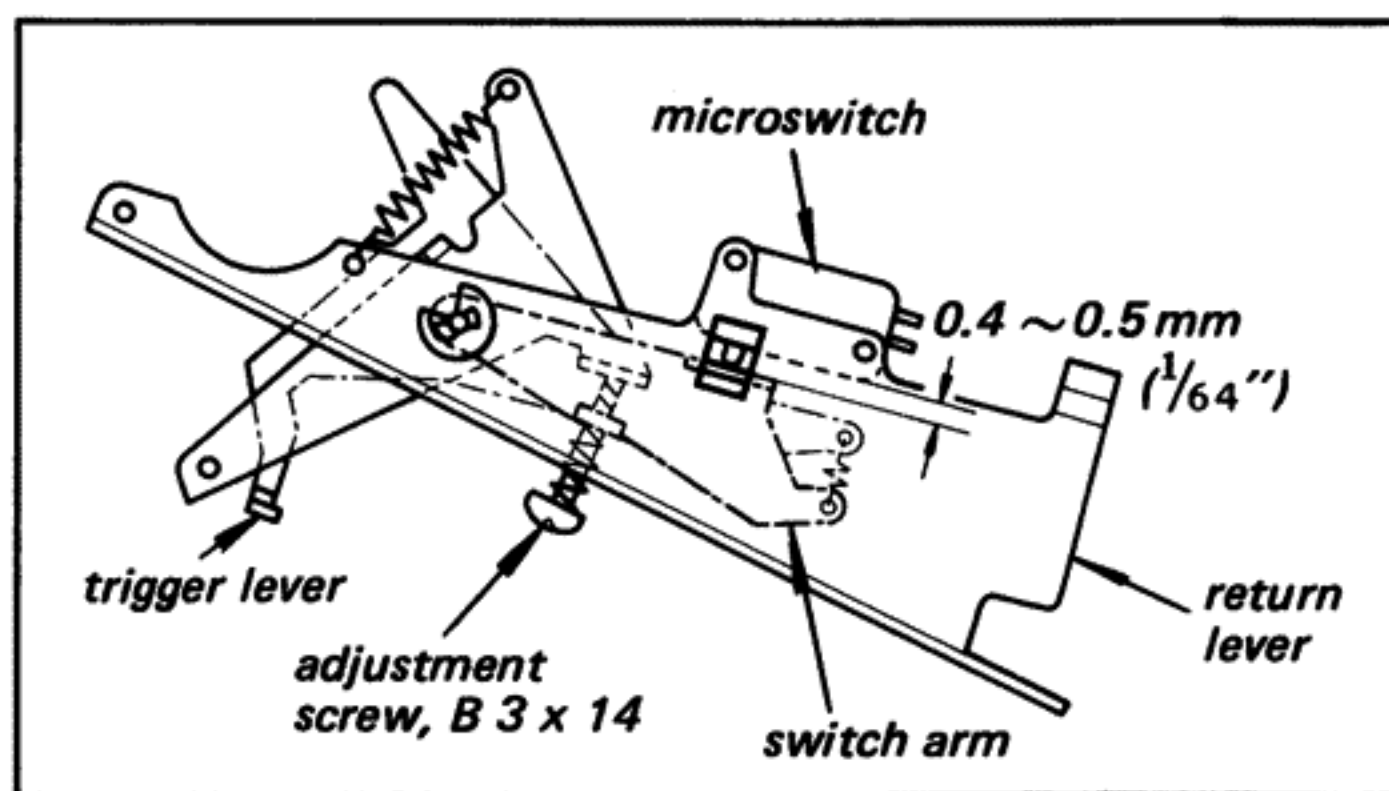

Fig. 3-14. Microswitch adjustment (1)
1. With the trip pawl (A) not engaging with the turntable shaft, adjust by turning the adjustment screw so that the clearance between the switch arm and the microswitch is 0.4 ~ 0.5 mm ( $\frac{1}{64}$ "') as shown in Fig. 3-14.